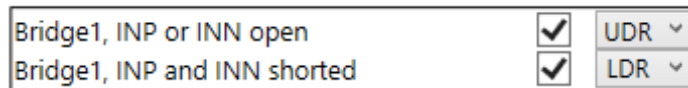

Figure 112. UDR/LDR Selection
- UDR/LDR drop-down lists: Defines if an upper or lower diagnostic range of signalization level is used on the AOUT and/or FOUT pins for the selected check (Figure 112).